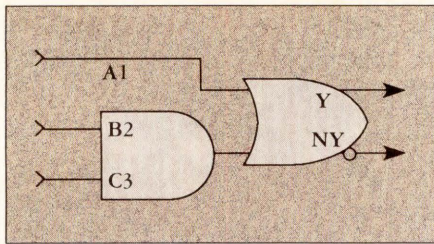

Figure 1. An AND/OR schematic symbol hides the complexity of the SCFL circuitry making design capture and simulation on a workstation straightforward.
Figure 2. The actual circuitry for the AND/OR logic gate (Figure 1) shows the multiple levels of differential current steering (where the input signals connect) that distinguish SCFL circuitry. In addition, the three levels of differential output signals are shown at the cathodes of the diodes.
Figure 1, for example, shows the schematic symbol for an SCFL AND/OR logic function. Figure 2 shows the corresponding schematic. Each input transistor pair steers one level in the current tree. Outputs of the tree drive complementary source-follower buffers for the true (Y) and complement (NY) sense of the output. The three levels of output signals—Y1 and NY1, Y2 and NY2, and Y3 and NY3—are found at the cathodes of the diodes in the
In combinational circuitry—for example, address decoding—signals may drive a variety of cells, and are therefore more likely to use two or three output logic levels. The designer can minimize routing capacitance, and reduce routing congestion, by keeping all inputs on a net at the same logic level. As seen in Figure 1, the inputs are marked with logical names (A, B and C) as well as numbers (1, 2 and 3), which represent the logical level. Connecting an output signal exclusively to 1-, 2- or 3-level inputs will yield better performance than using the three input levels randomly. Again, for 90 percent of circuits, this is irrelevant.